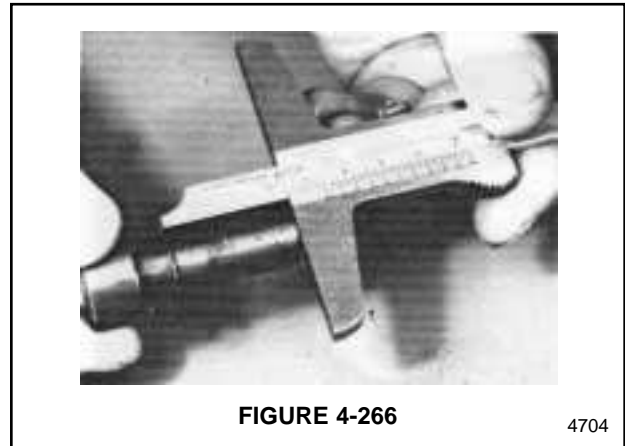

FIGURE 4-266
2. Measure the distance from the bottom of the gauge pin to the snap ring. See Figure 4-266. For this example, this distance measured 32.8 mm. This is measurement A.